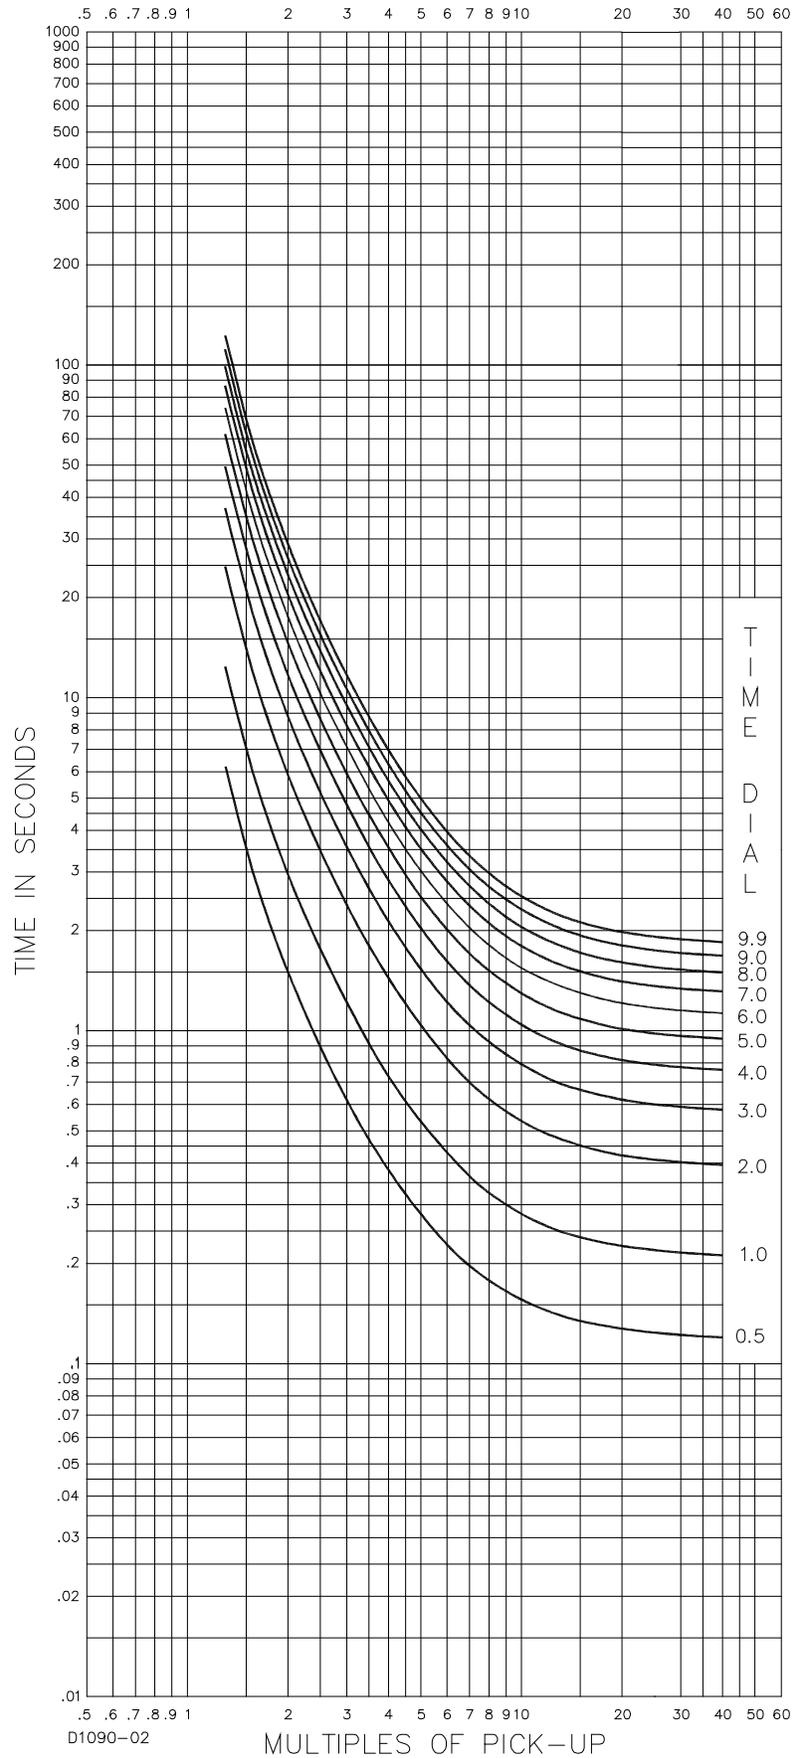

Figure 7-5. I-Inverse Curve (SW3-3 Off, Similar to ABB CO-8)
- I-Inverse (SW3-3 OFF, Similar to ABB CO-8): Figure 7-5